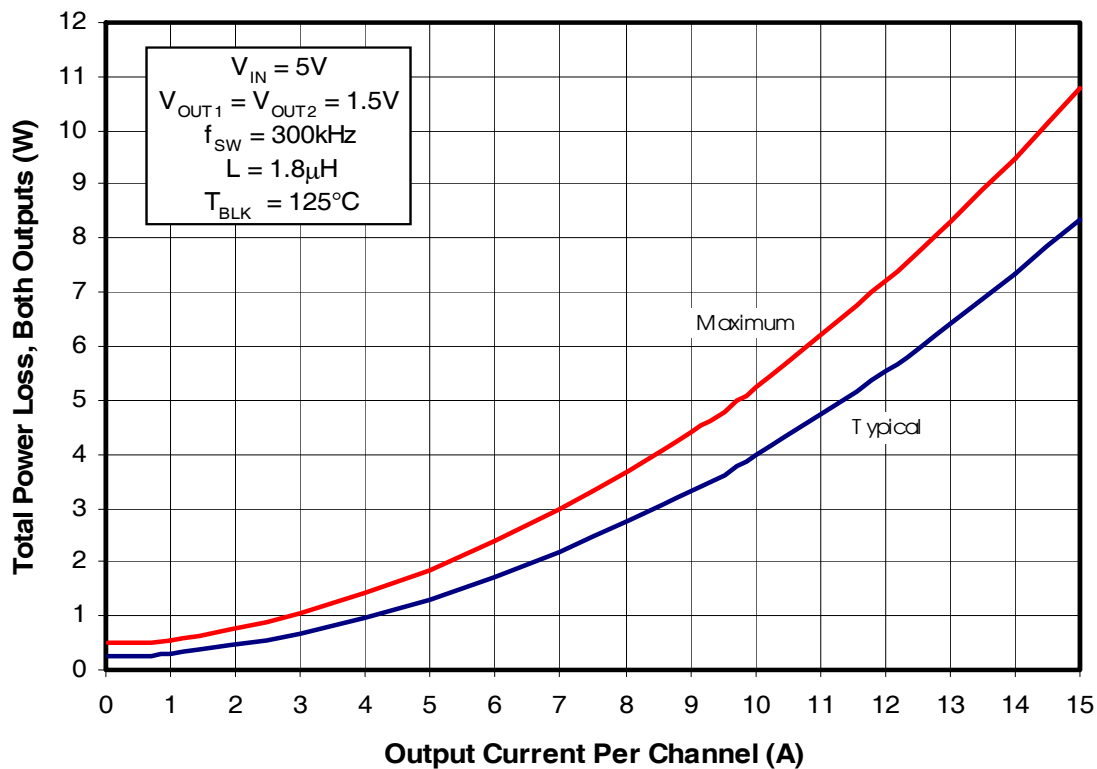

Fig. 2: Power Loss vs. Current
To make adjustments to the power loss curves in Fig. 2, multiply the normalized value obtained from the curves in Figs. 4, 5, 6 or 7 by the value indicated on the power loss curve in Fig. 2. Remember that the power loss in Fig. 2. is the power loss for 2 outputs operating with the same output voltage. If differing output voltages are used the initial power loss for each channel needs to be divided by 2. Then if multiple adjustments are required, multiply all of the normalized values together, then multiply that product by the value indicated on the power loss curve in Fig. 2. The resulting product is the final power loss based on all factors. See example no. 1.
- Output1 (Fig. 2) Maximum power loss = 5.3W / 2 = 2.65W
- Output2 (Fig. 2) Maximum power loss =  $8.25W / 2 = 4.13W$